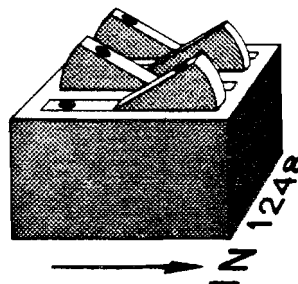

Figure 5 — 4-Position Rocker Switch
- 3) **Multi-position switches:** these switches may be used to select options and/or numerical values (see Figures 5 and 6). Select the specified value or option by actuating the appropriate switch position(s):